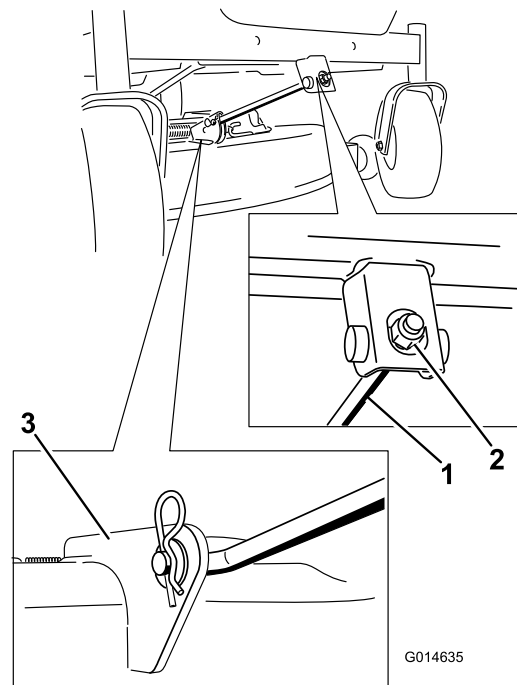

Figure 58
4. Remove the hairpin cotter from the front support rod and remove the rod from the deck bracket (Figure 58).